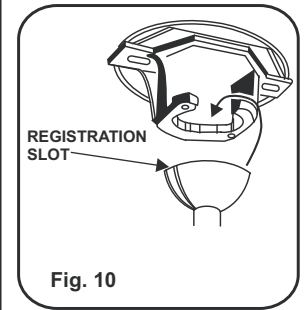

Fig. 10
Step 6. Now lift motor assembly into position and place hanger ball into hanger bracket. Rotate until the check groove has dropped into the registration slot and seats firmly.(Fig 10) Rod should not rotate if this is done correctly.